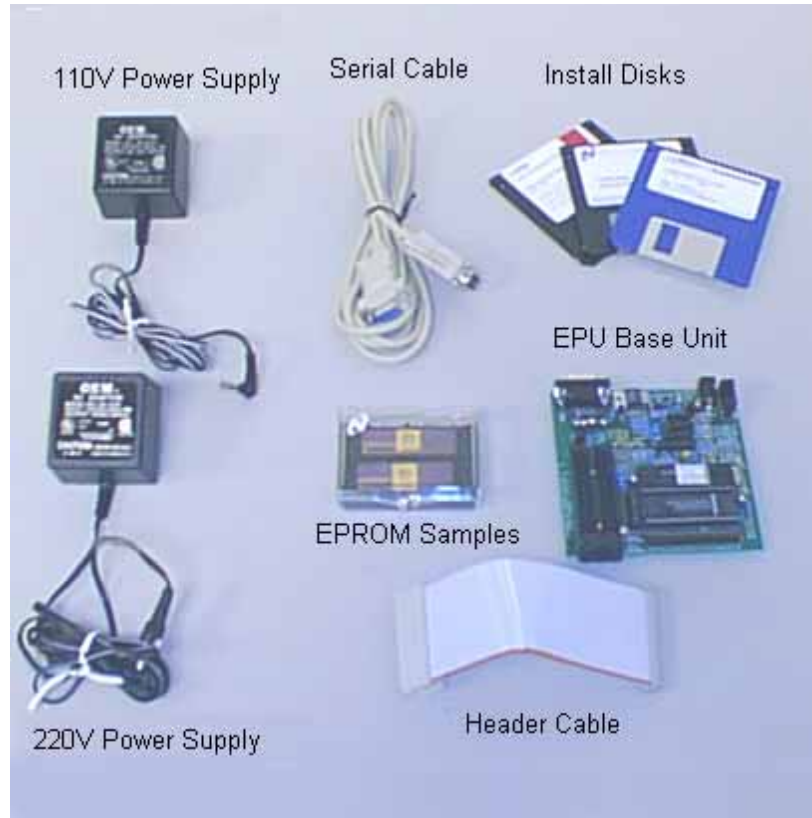

Figure 2.
1. Begin by identifying all the parts of the system. Locate the serial connection cable, base unit, a power supply (there should be two for the Debug Module), and a 40 pin ribbon cable with a header. The setup should look like Fig. 2.